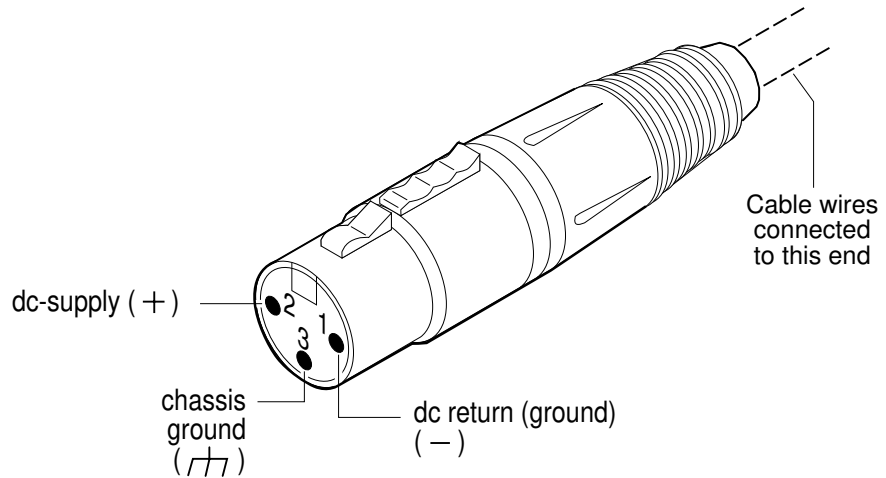

Figure 4-1E. Three-Pin XLR Plug Pinouts (Front View)
- 13 Note that you will have to assemble your own dc power cable using 18 AWG connecting wires and a three-pin HP E9640A XLR (female) connector plug, shown in Figure 4-1E.